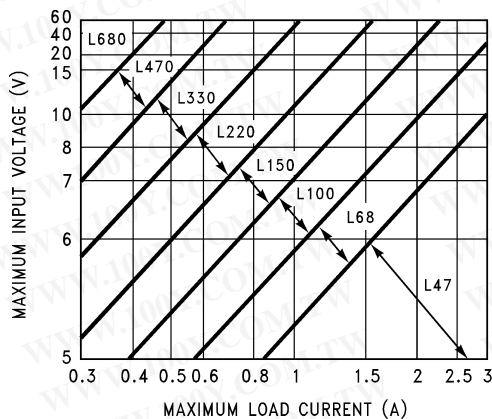
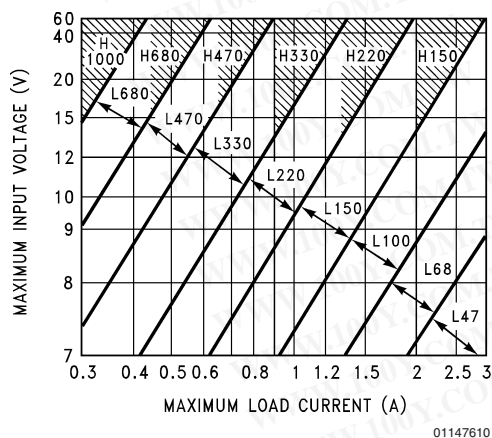
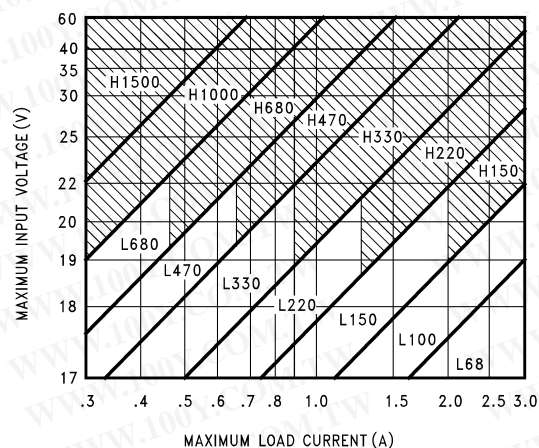

FIGURE 3. LM2576(HV)-3.3
FIGURE 4. LM2576(HV)-5.0
FIGURE 6. LM2576(HV)-15
1. Inductor Selection (L1) A. Select the correct Inductor value selection guide from *Figures 3, 4, 5* or *Figure 6*. (Output voltages of 3.3V, 5V, 12V or 15V respectively). For other output voltages, see the design procedure for the adjustable version. **B.** From the inductor value selection guide, identify the inductance region intersected by $V_{IN}(\text{Max})$ and $I_{LOAD}(\text{Max})$, and note the inductor code for that region. **C.** Identify the inductor value from the inductor code, and select an appropriate inductor from the table shown in *Figure 3*. Part numbers are listed for three inductor manufacturers. The inductor chosen must be rated for operation at the LM2576 switching frequency (52 kHz) and for a current rating of $1.15 \times I_{LOAD}$. For additional inductor information, see the inductor section in the Application Hints section of this data sheet.
1. Inductor Selection (L1) A. Use the selection guide shown in *Figure 4*. **B.** From the selection guide, the inductance area intersected by the 15V line and 3A line is L100. **C.** Inductor value required is 100 μH . From the table in *Figure 3*. Choose AIE 415-0930, Pulse Engineering PE92108, or Renco RL2444.